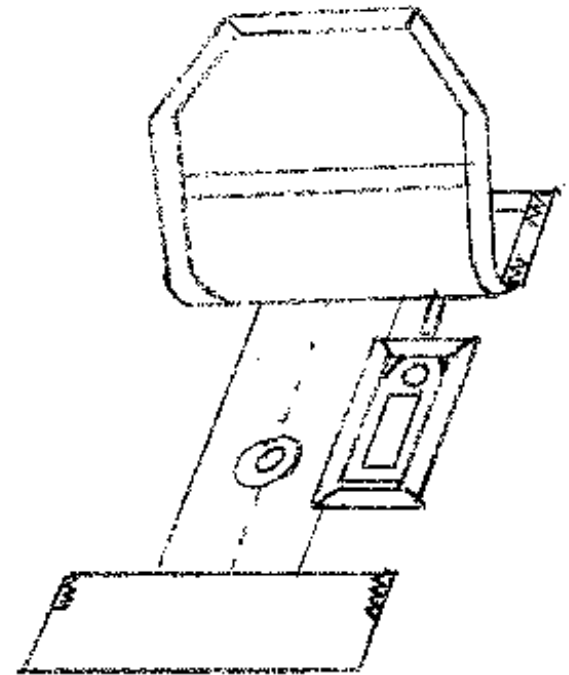

Figure 7-2
Step 4 Turn the rig over and pull the rigger access tabs on the pin protector door out from their pockets. (Figure 7-2)
Step 5 Insert one (1) or two (2) fingers up through the aperture cut in the back pad. Push the control unit out through the back pad aperture using your fingers as a guide.